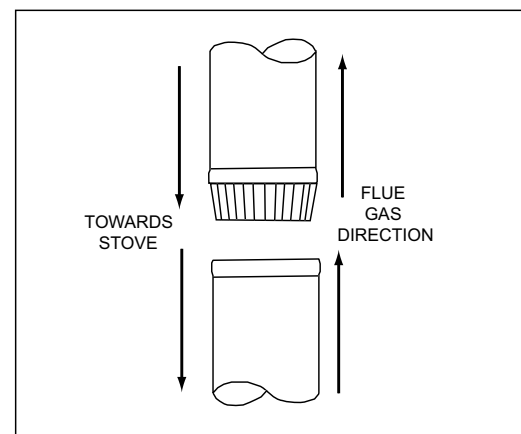

Figure 11B -Chimney Connector
- A. Single wall connector or stovepipe. This must be at least 24 gauge mild steel or 26 gauge blue steel. The sections must be attached to the stove and to each other with the crimped (male) end pointing toward the stove. **See Figure 11B.** All joints, including the connection at the stove collar, should be secured with 3 sheet metal screws. Make sure to follow the minimum clearances to combustibles as set out on **page 6** of this manual. In Canada, where passage through the wall, or partition of combustible construction is desired, the installation shall conform to CAN/CSA-B365.